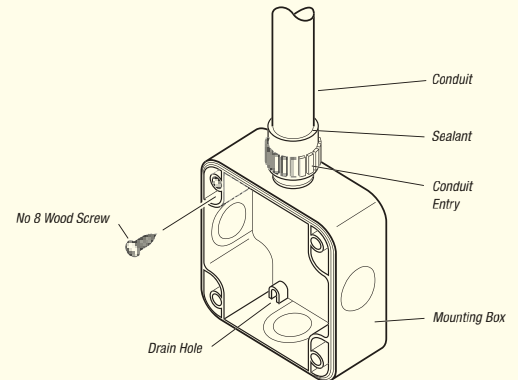

Figure 4
8. Seal the conduit and conduit entry with a non setting conduit sealant such as Egaweld™ Plus. Refer to Figure 4.